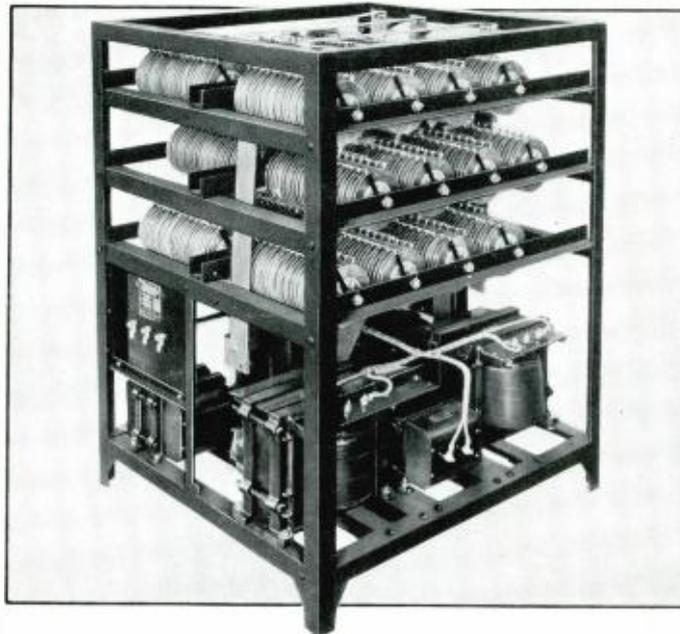

FIG. 10. RECTIFIER WITH 24 STACKS OF 25 PLATES IN PARALLEL FOR 220V., 3-PHASE
Similarly, the regulation of the three-phase, 325-ampere, 13-volt unit (Fig. 10) is computed by reading F_c for N equal to zero in Fig. 8. Substituting 0.3 for the value of dv in formula (3), and taking 11.8 volts for V_{oc} , the no-load voltage is found to be 15 volts, and the voltage regulation is, therefore, 15.4%.
In order to illustrate the simplified method of efficiency computation and the effect of dv changes on its value, let us compute the efficiency of the 325-ampere, 13-volt, three-phase unit illustrated in Fig. 10.